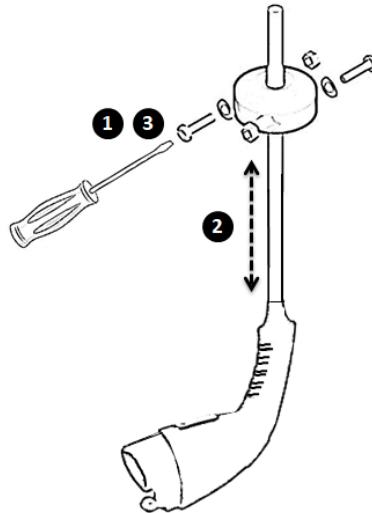

Figure 2-7 Cable Stop Adjustment
7. After the EVOREEL cable guide brackets are adjusted, adjust the Cable Stop to extend the Charging Plug/Connector to the desired height (Note: For public installations, to meet ADA reach requirements, the Charging Plug/Connector height should not exceed 48 inches from the Ground when the cable is fully retracted). Referring to Figure 2-7, adjust the Cable Stop by loosening the Cable Stop Screws (Step 1), moving the cable stop to the desired position (Step 2) and then fastening the screws to secure the Cable Stop (Step 3).